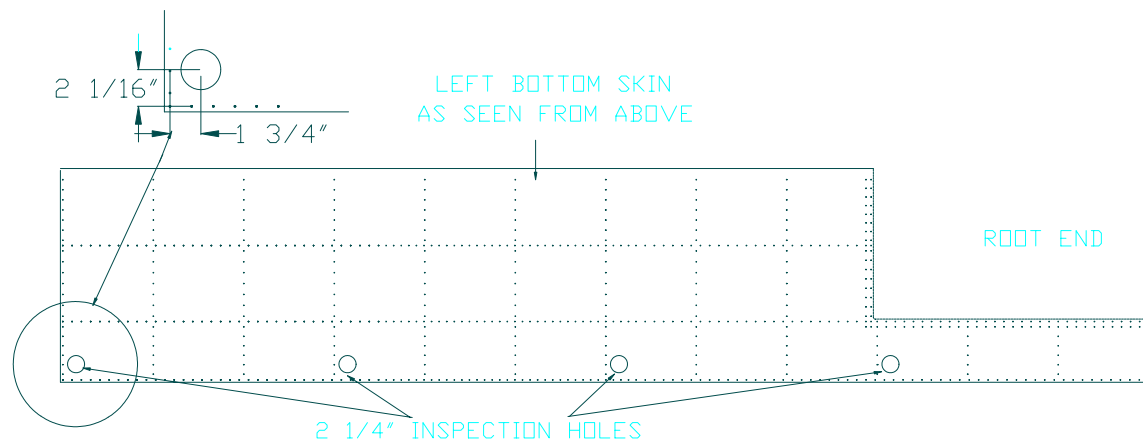

Figure 8.23.2
2) When doing the Left Wing, the inspection holes will be located as in Figure 8.23.2.